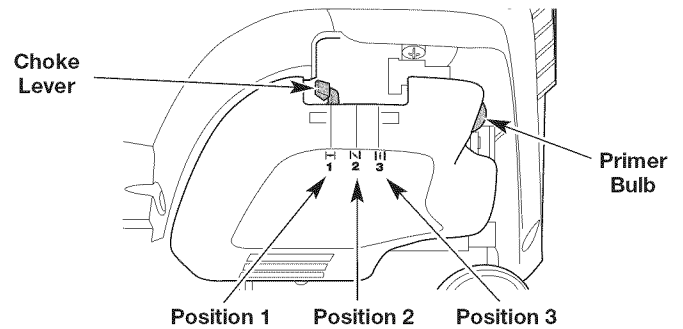

Fig. 10
3. Slowly press and release the primer bulb **10 times** (Fig. 10). If fuel cannot be seen in the primer bulb, press and release the primer bulb until fuel is visible.
4. Move the choke lever to **Position 1** (Fig. 10).
7. Continue to squeeze the throttle control. Move the choke lever to **Position 2** (Fig. 10).
10. Continue to squeeze the throttle control. Move the choke lever to **Position 3** (Fig. 10) and continue warming the engine for an additional 60 seconds. The unit may be used during this time.
IF... the engine hesitates, return the choke lever to **Position 2** (Fig. 10) and continue the warm-up.
8. Continue to squeeze the throttle control. Move the choke lever to **Position 2** (Fig. 10).
12. Continue to squeeze the throttle control. Move the choke lever to **Position 3** (Fig. 10) and continue warming the engine for an additional 60 seconds. The unit may be used during this time.